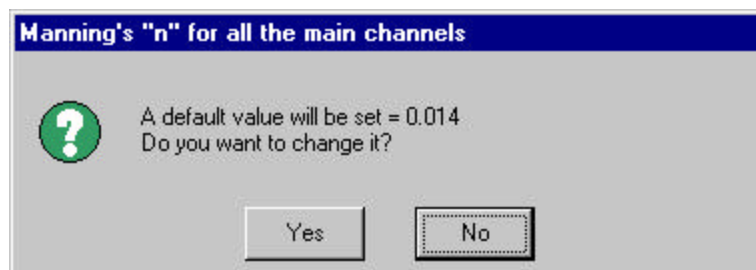

Figure 8.7
- d. When writing of the *.rte* (main channel input) database begins, a prompt box appears (Figure 8.7) offering two options for defining Manning's roughness factor for the main channels in all subbasins.